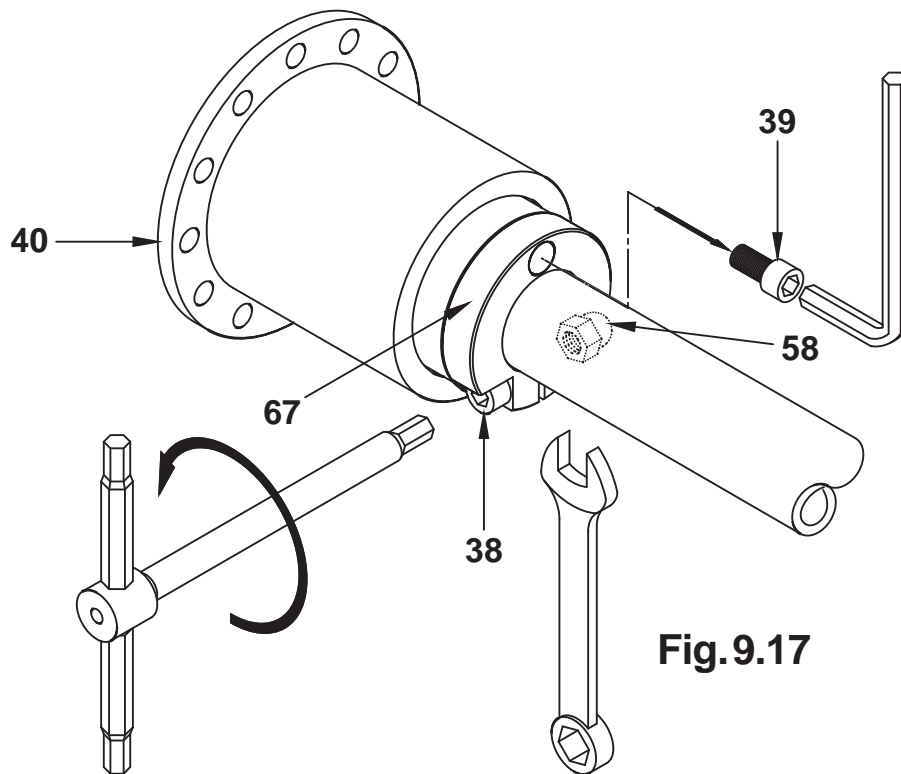
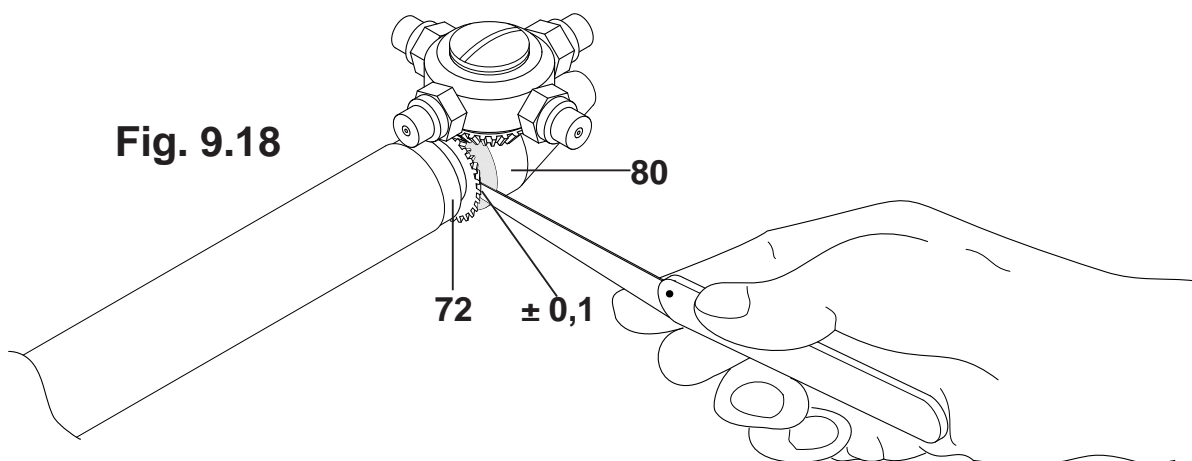

Fig.9.17
Fig. 9.18
- a) Using a hex spanner, unscrew and remove the screw pos.39 located on the ring nut pos.67.
- b) Loosen the screw pos.38 to release the clamp ring nut pos.67 then move this away from the casing pos.40 (Fig.9.17).
- c) Unscrew the bottom casing pos.40 until the end part and output shaft are unable to turn.
- d) Slowly screw the bottom casing pos. 40 again until there is approximately 0.1mm between the pinion pos.72 and the pin pos.80, (check with gauge) fig.9.18.